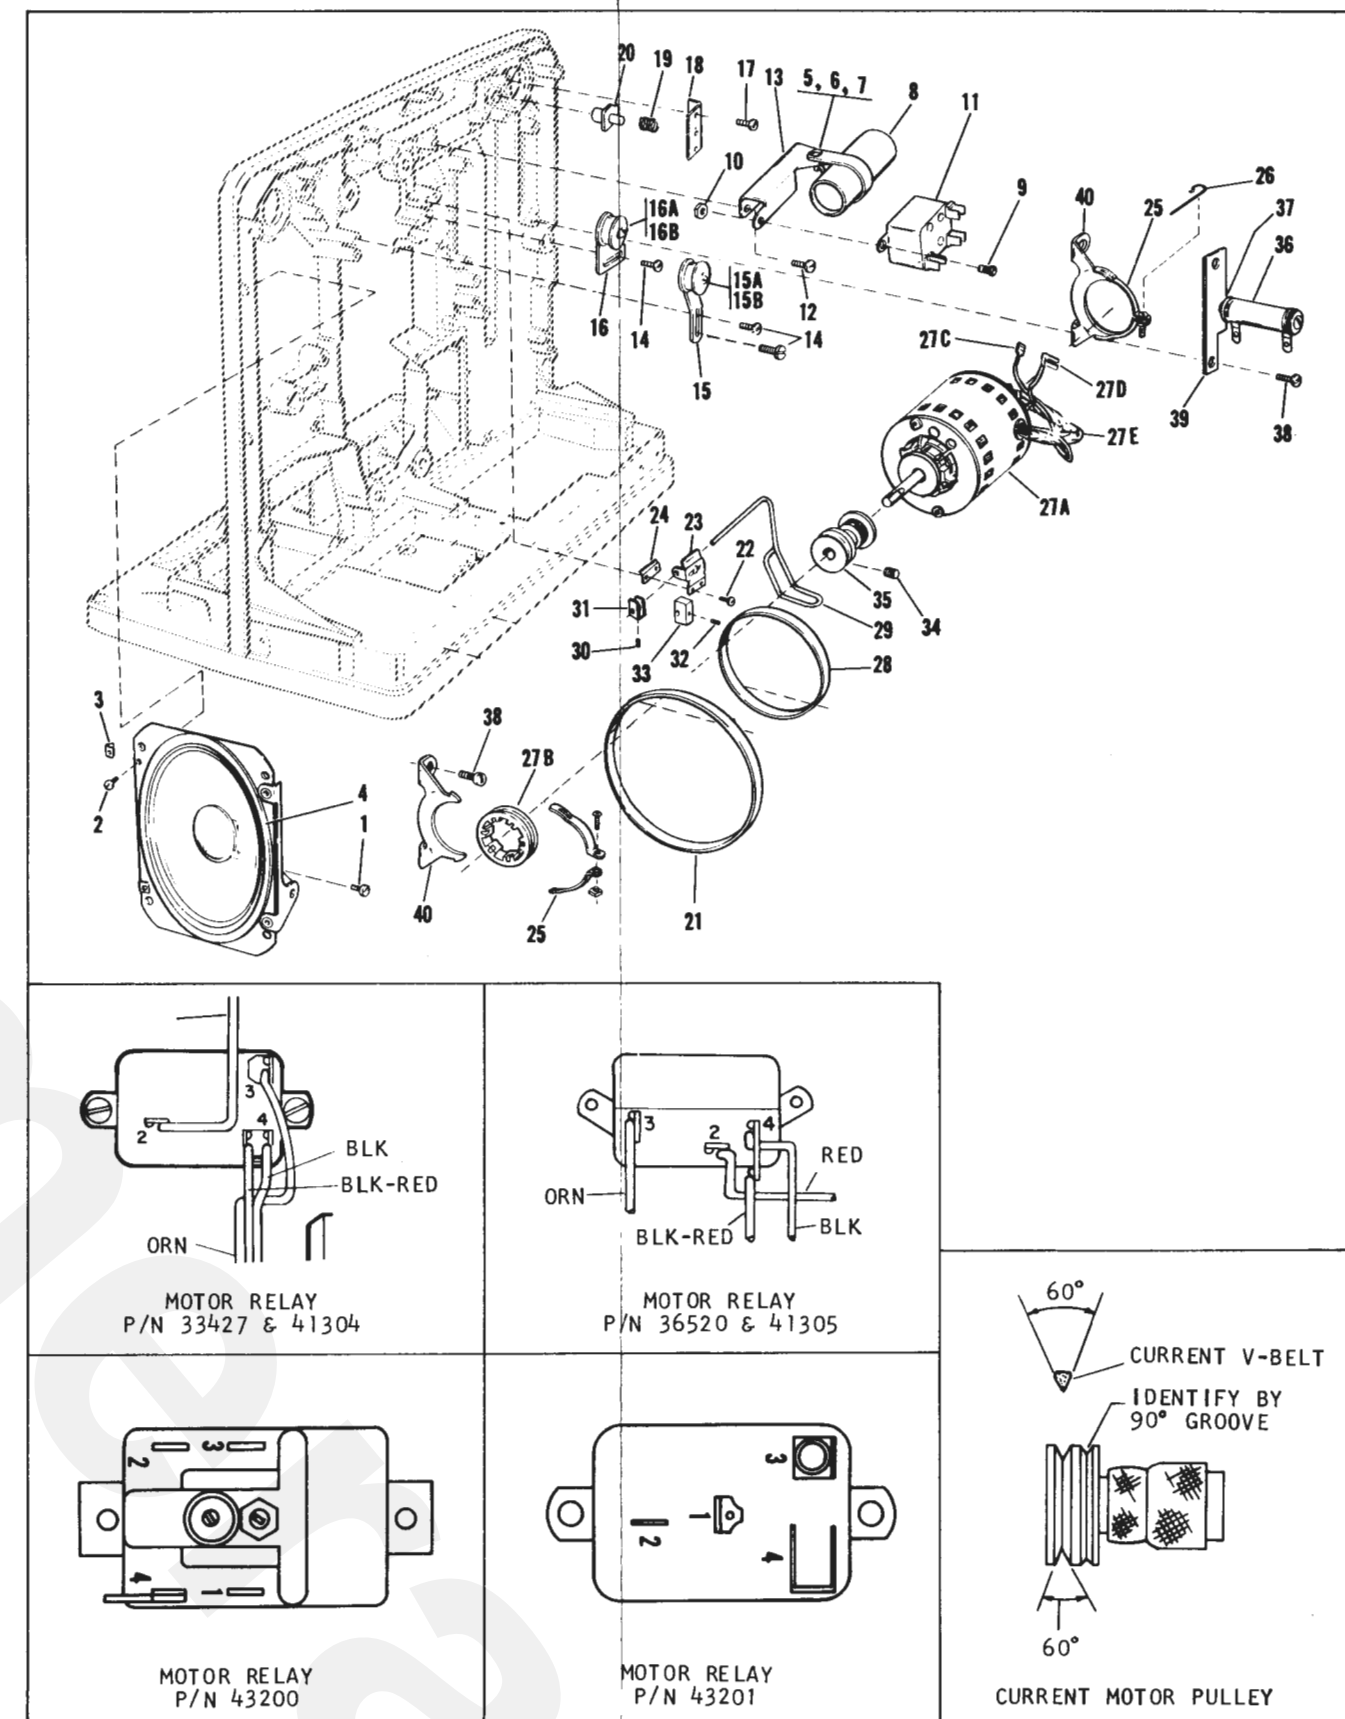

Figure 7. Projector Drive Motor and Electrical Parts
-14	17639	RING, Retaining, external, 0.125 inch ID (E)	1	CDIJ
-19	97509	RING, Retaining, external, 0.250 inch ID (E)	1	CDIJ
\*The projector drive motor (item 27, Figure 7) must be removed to gain access to the clutch and fire shutter mechanical linkage.
NOTE A: Available relays are shown in the insets of Figure 7. Relays 41304 and 41305 are used on export models (EX, EXT) only. Relays 36520 and 33427 are used on models 545, 550 and 552 and relays 43200 and 43201 on models 545T, 550T, 552T.